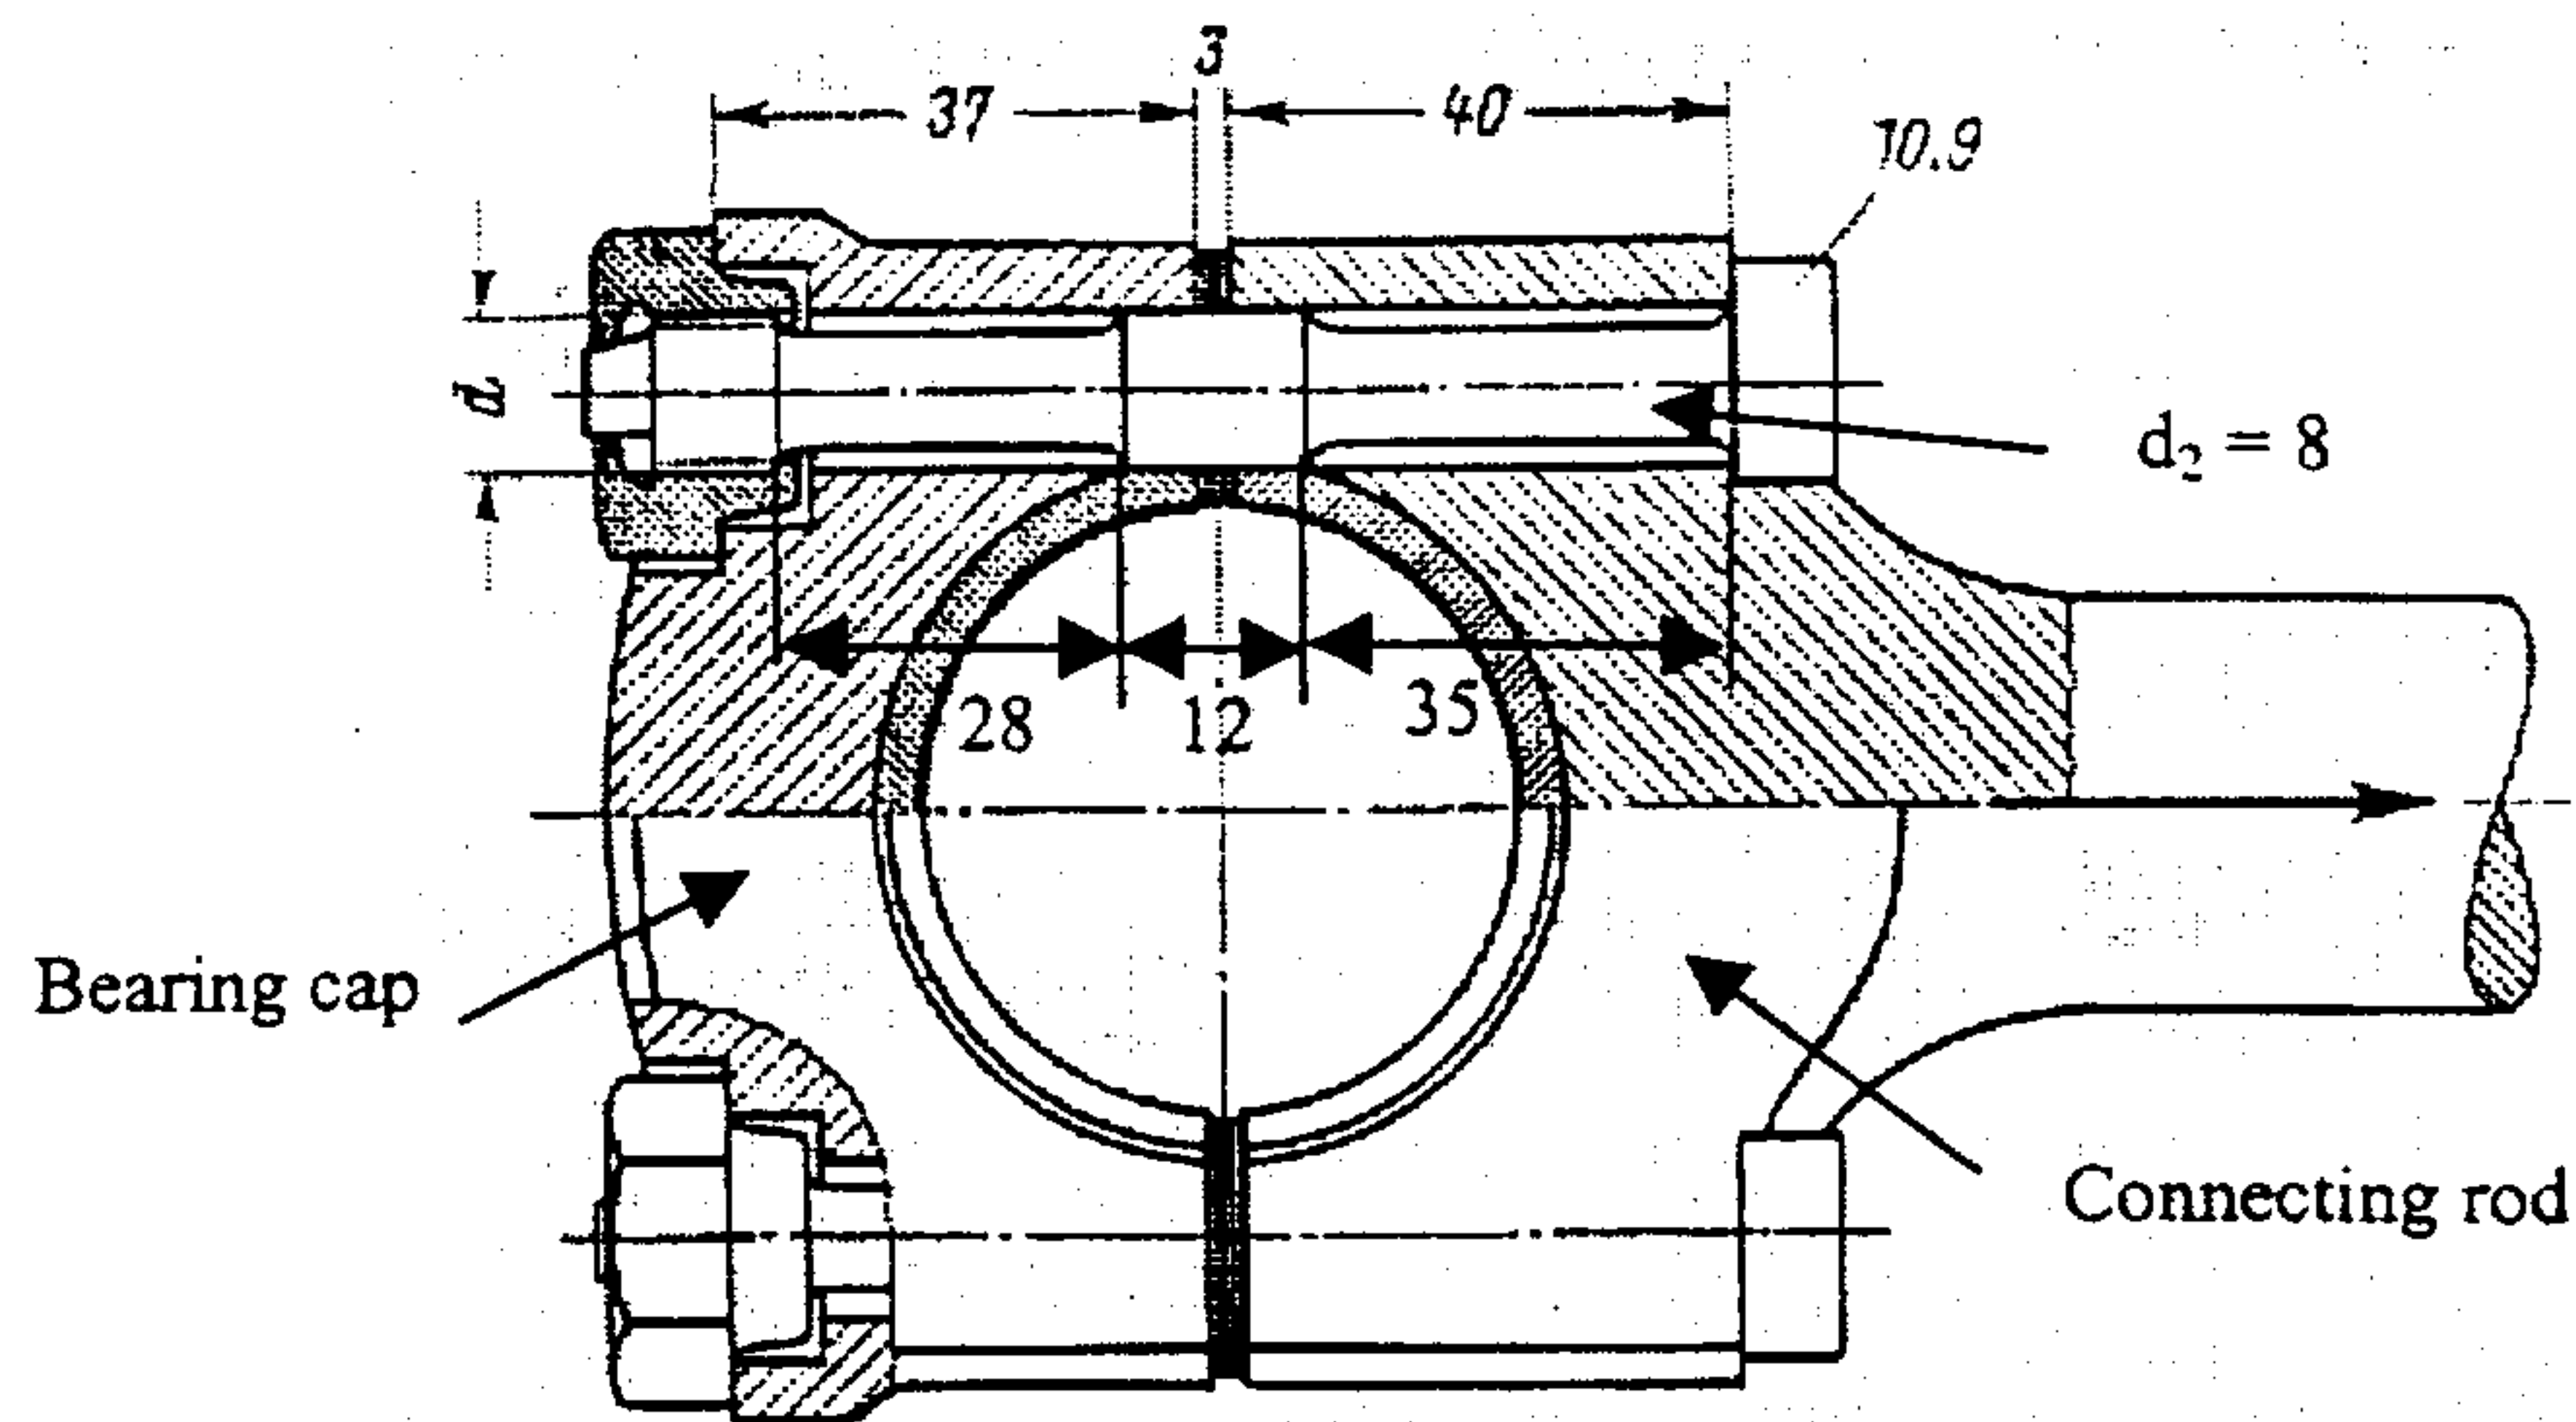

Figure 2 – Connecting Rod Drawing and Dimensions
In Figure 1, a cross-sectional drawing of a two-cylinder steam engine is given (it was taken from a Dutch publication). The two pistons drive a crankshaft through the connecting rods. In Figure 2, a detailed drawing is given of the connecting rods connection to the crankshaft. ALL DIMENSIONS ARE IN MILLIMETERS (mm).
As you see in Figure 2, two bolts connect the bearing cap to the connecting rod. Your concern is the bolt-nut combination used for clamping the bearing cap on the connecting rod in Figure 2. M10 coarse pitch bolts grade 10.9 are used with a proof strength of 830 Mpa and a thread tensile stress area of 58.0 mm^2 . The diameter (d) of the bolt hole is 10 mm - the same as the outer diameter of the bolt shank at its thickest point. As shown in Figure 2, the bolts have two slender areas where the shank diameter d_2 is 8 mm.
- Calculate the stiffness of the bolt in Figure 2.
- The shape of the nuts used in Figure 2 is different than regular nuts that you typically see. Can you explain what the purpose (or intended purpose) of these special nuts is?